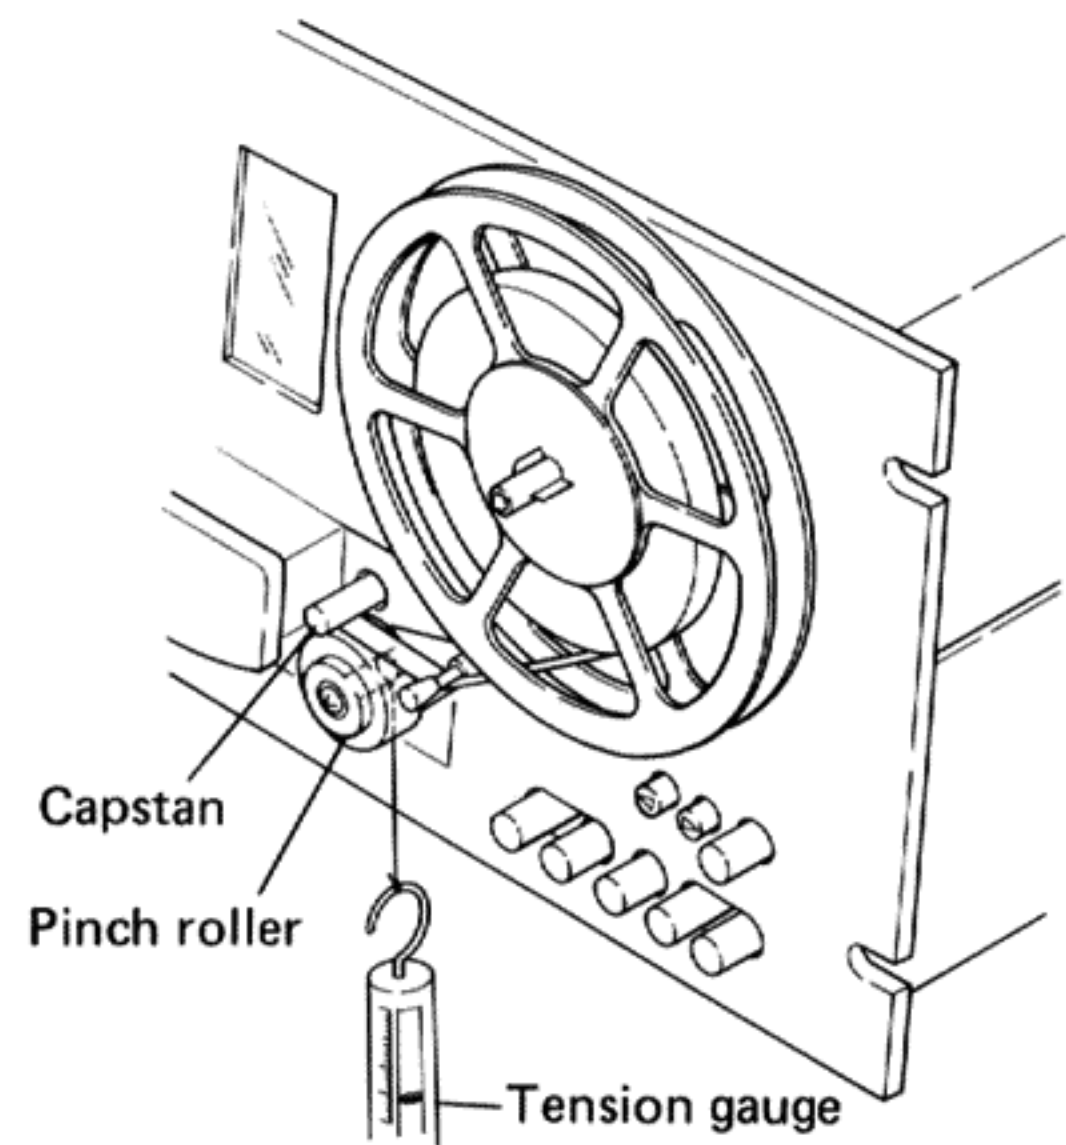

Fig. 26
4. Hook a tension gauge to the pinch roller and confirm that the tape is stopped within a range of 1.3 ~ 1.6kg (Fig. 26).